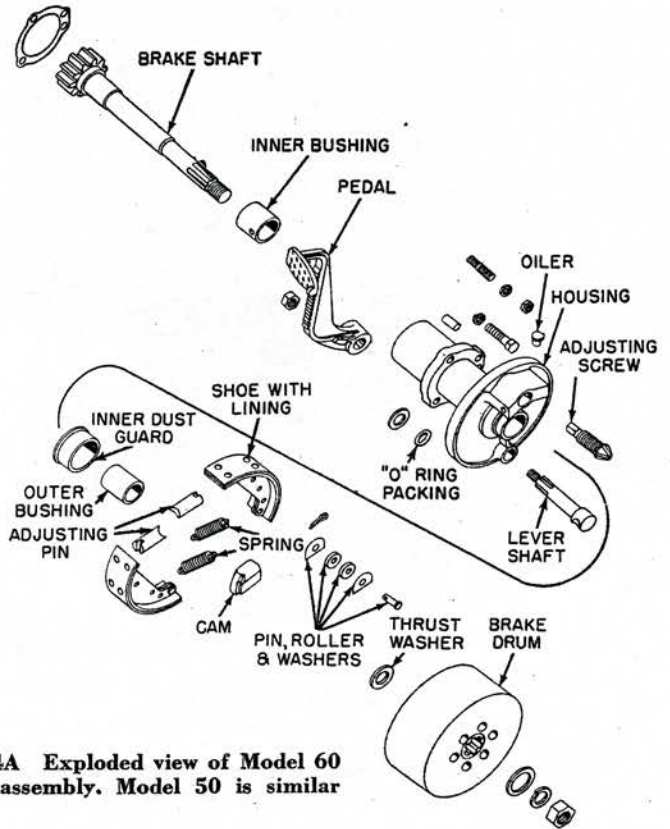

Fig. 44A Exploded view of Model 60 brake assembly. Model 50 is similar
**ADJUSTMENT**—To compensate for brake lining wear, a tapered adjusting screw, Fig. 44A, and two adjusting pins are provided. As the brake linings wear, the adjusting screw can be turned farther in, causing adjusting pins to move farther up on the tapered adjusting screw, pushing the brake shoes closer to the drum.
**ASSEMBLE**—Referring to Fig. 44A, install brake cam and adjusting pins. Be sure tapered end of adjusting screw is as far back in housing as possible to facilitate assembly of shoes.